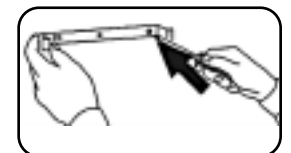

Figure 2
- The Utility Heater must be fixed to a vertical wall by means of the assembly hoop. To do so, drill two holes at the specified clearances (Fig.2). Use the assembly hoop as a template (Fig.2).